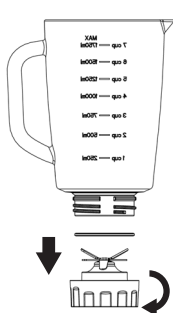

Fig. 3
- 1) Invert the jar onto a level surface, holding the jar handle, put the blade assembly onto the jar base bottom and secure the blade assembly by turning it clockwise until tight(See Fig.3)